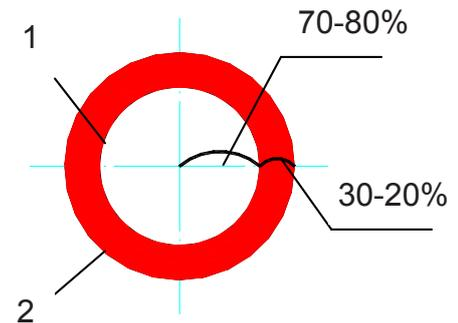

Figure 21
4-4-2 Using the aperture diaphragm (fig. 21)
- To identify the aperture diaphragm, the eyepiece can be removed or the centering telescope can be used. The aperture diaphragm looks as in fig. 21.